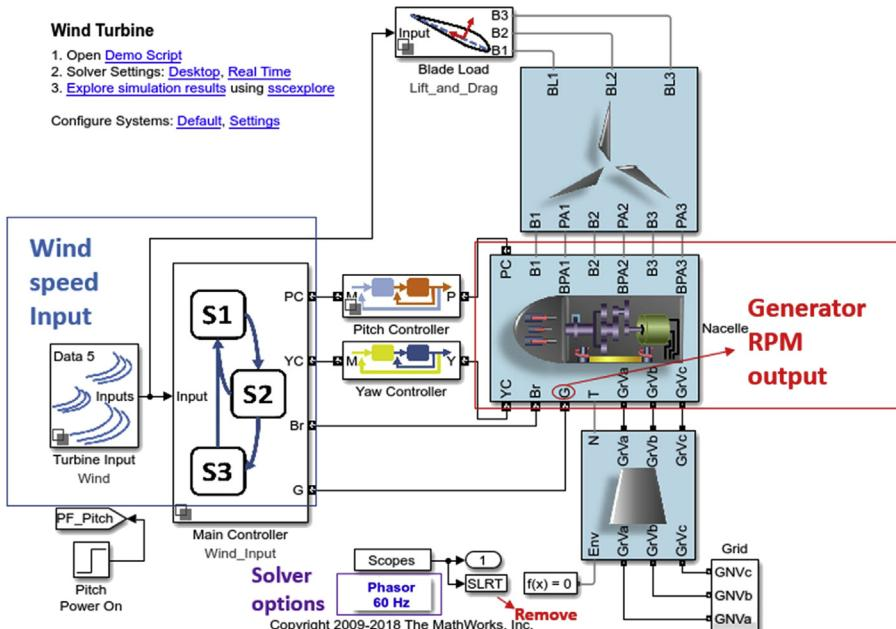
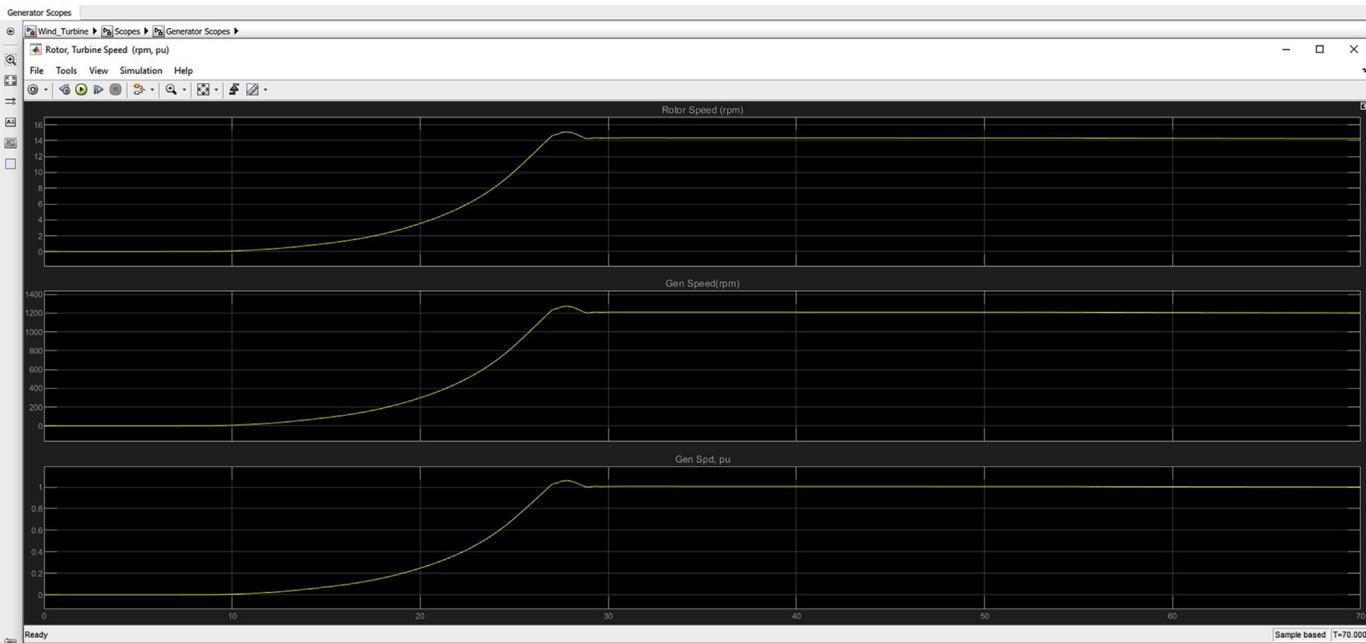
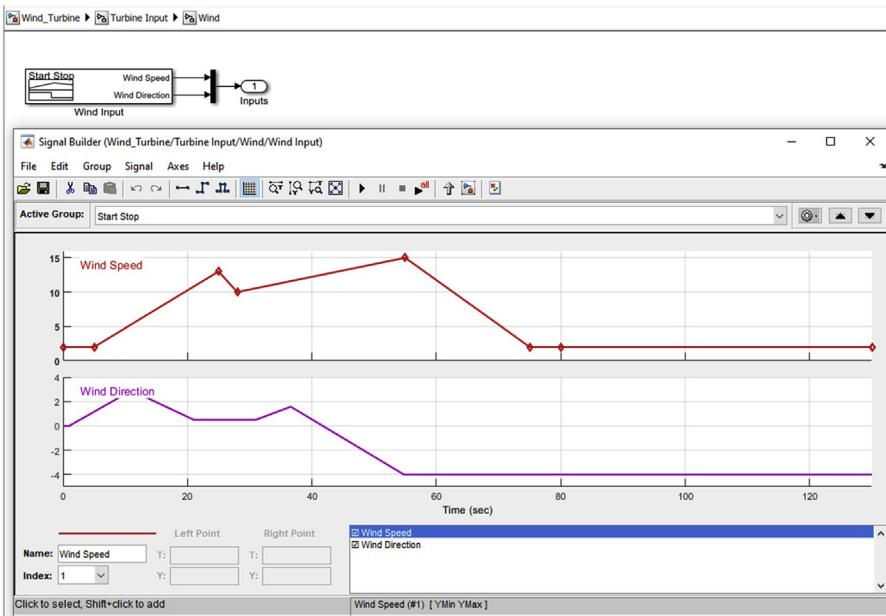

Figure 10.5 Wind turbine Simscape model.
Figure 10.7 Output response of the generator.
Figure 10.8 Wind speed and wind direction input.
The Wind Turbine model is shown in Fig. 10.5 with key areas highlighted. As seen in the figure, the inputs to the model are the wind speed along with the states of the wind turbine (explained below). The output is the RPM of the generator located in the Nacelle subsystem. The solver options are set to phasor 60 Hz as default.
3. The Blade Load subsystem in Fig. 10.5 is to calculate lift and drag loads on the turbine blade. In order to determine the lift and drag loads, the pitch and yaw commands are needed from the pitch and yaw controllers. This information is sent to the Simscape portion to simulate the movement in the Mechanics Explorer and then to the Nacelle subsystem.
The model is ready to be simulated with variable time step. Before running the simulation, the SLRT block adjacent to the Phasor 60 Hz block in the top level of the model needs to be removed as shown in Fig. 10.5. SLRT is for Simulink Real-Time Workshop for code generation purposes; however, in this chapter, embedded coder ert.tlc is used instead for code generation. Once the SLRT block is deleted, the model can be simulated by pressing the play button. As the simulation is running, the system performance of the wind turbine can be observed graphically in the Mechanics Explorer window. The key outputs to observe can be found in Wind_Turbine/Scopes/Generator Scopes path of the model. Double click on the Rotor Turbine speed scope to observe the RPM response of the generator as shown in Fig. 10.7. As seen from the second subplot in Fig. 10.7, the generator ramps up to a steady state speed of 1200 RPM after approximately 10 seconds. This behavior can be understood as a response to the wind speed input located in Wind_Turbine/Turbine Input/Wind shown in Fig. 10.8.
As seen in Fig. 10.8, the wind speed input is set for 130 s. Increase the simulation time from 70 to 130 s next to the play button in Simulink. This way, the transition from STARTUP to BRAKE is captured when wind speed falls below wind_speed_cut_in_lower.